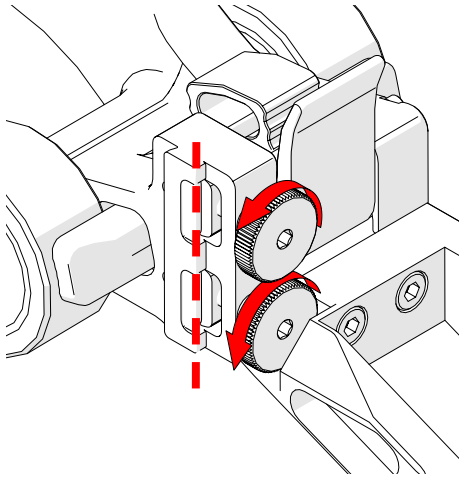

Fig. 34 - Loosen dovetail jaws
1. Rotate the two knobs at the front of the low profile link to align the dovetail jaws (Fig. 34).